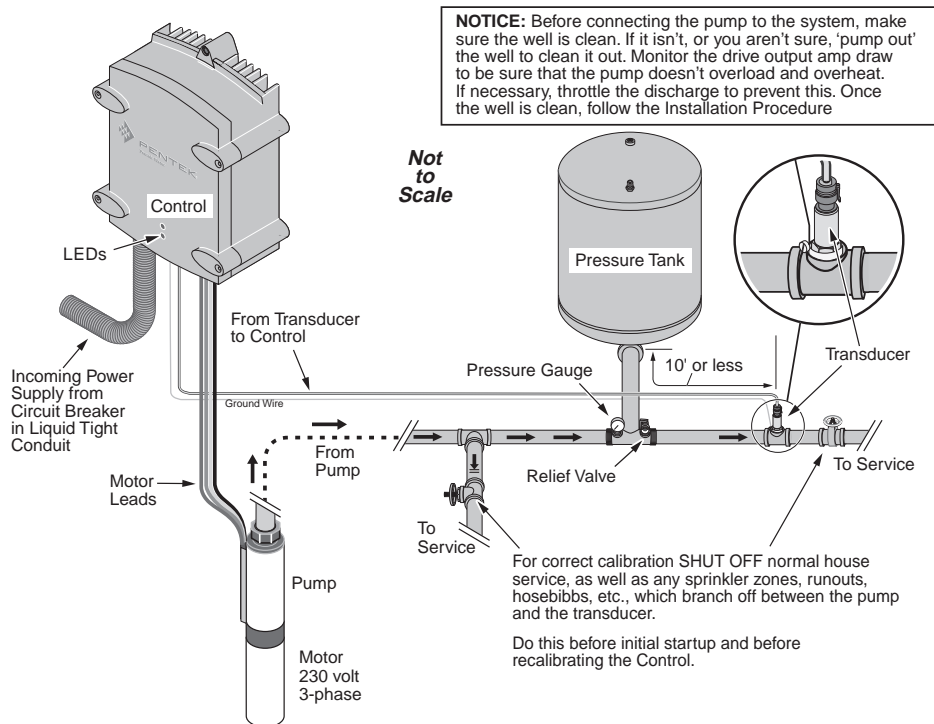

Figure 7-2: PPC20 General Layout
5. Connect the other end of the pressure transducer cable to the transducer. (See Figure 7-2).